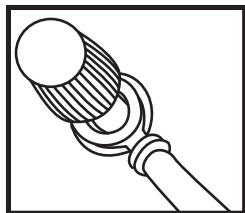

Fig. 1
- Loosen the red nut **16** at the voltage transformer **1**. Guide the red fork eyelet of the cable with 12-V-car cigarette lighter plug **12** over the screw connection **7** with its opening (see fig. 1). Ensure that the washer is between the fork eyelet and the nut **16**.
(see fig. 1). Ensure that the washer is between the fork eyelet and the nut **17**.
- Loosen the red nut **16** at the voltage transformer **1**. Guide the red fork eyelet of the cable with the red connection terminal **10** over the 12-V-screw connection **7** (see fig. 1). Ensure that the washer is between the fork eyelet and the nut **16**.
- Loosen the black nut **17** at the voltage transformer **1**. Guide the black fork eyelet of the cable with the black connection terminal **11** over the screw connection **8** (see fig. 1). Ensure that the washer is between the fork eyelet and the nut **17**.